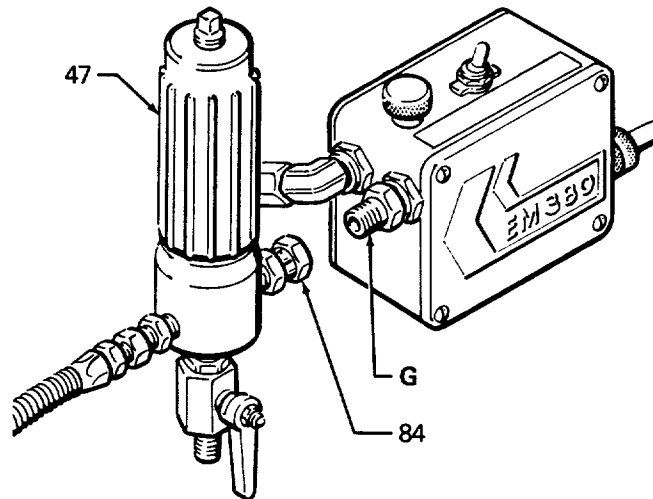

Fig 9
Hold the nut at the pressure control with a wrench and disconnect swivel union (84) from nipple (G). Remove filter (47). See Fig 9.